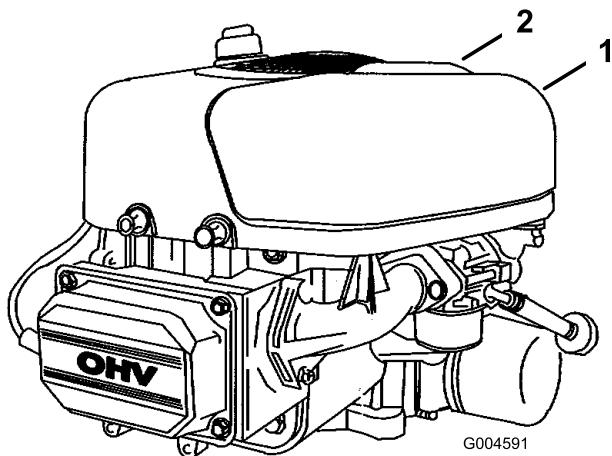

Figure 23
- Pull up on the air cleaner cover handle and rotate it toward the engine (Figure 23) and remove the air cleaner cover.